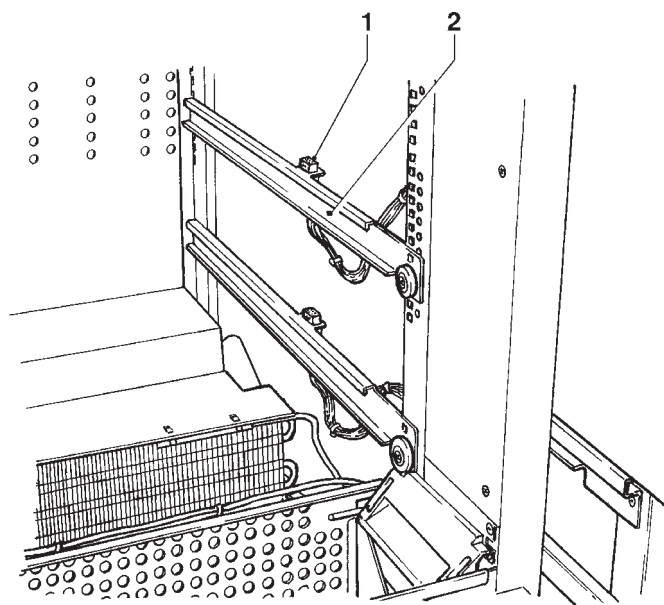

Fig. 22
- Move the guides (see Fig. 22) placed on the side supports, except the first ones at the bottom which stay in the same position.